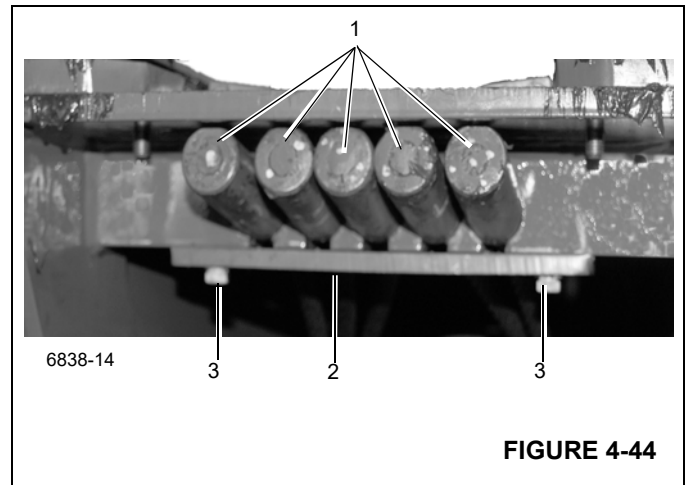

FIGURE 4-44
- 14. Place the five extend cable dead ends (1), (Figure 4-44) in the slots at the top of the Fly Section and secure them
with the extend cable keeper plate (2), (Figure 4-44) and two bolts (3), Figure 4-44).